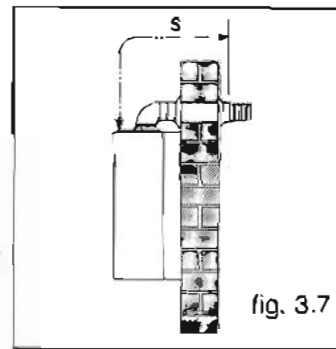

fig. 3.7
- 1 - Minimum flue length 'S' 500 mm ( see fig. 3.7 )